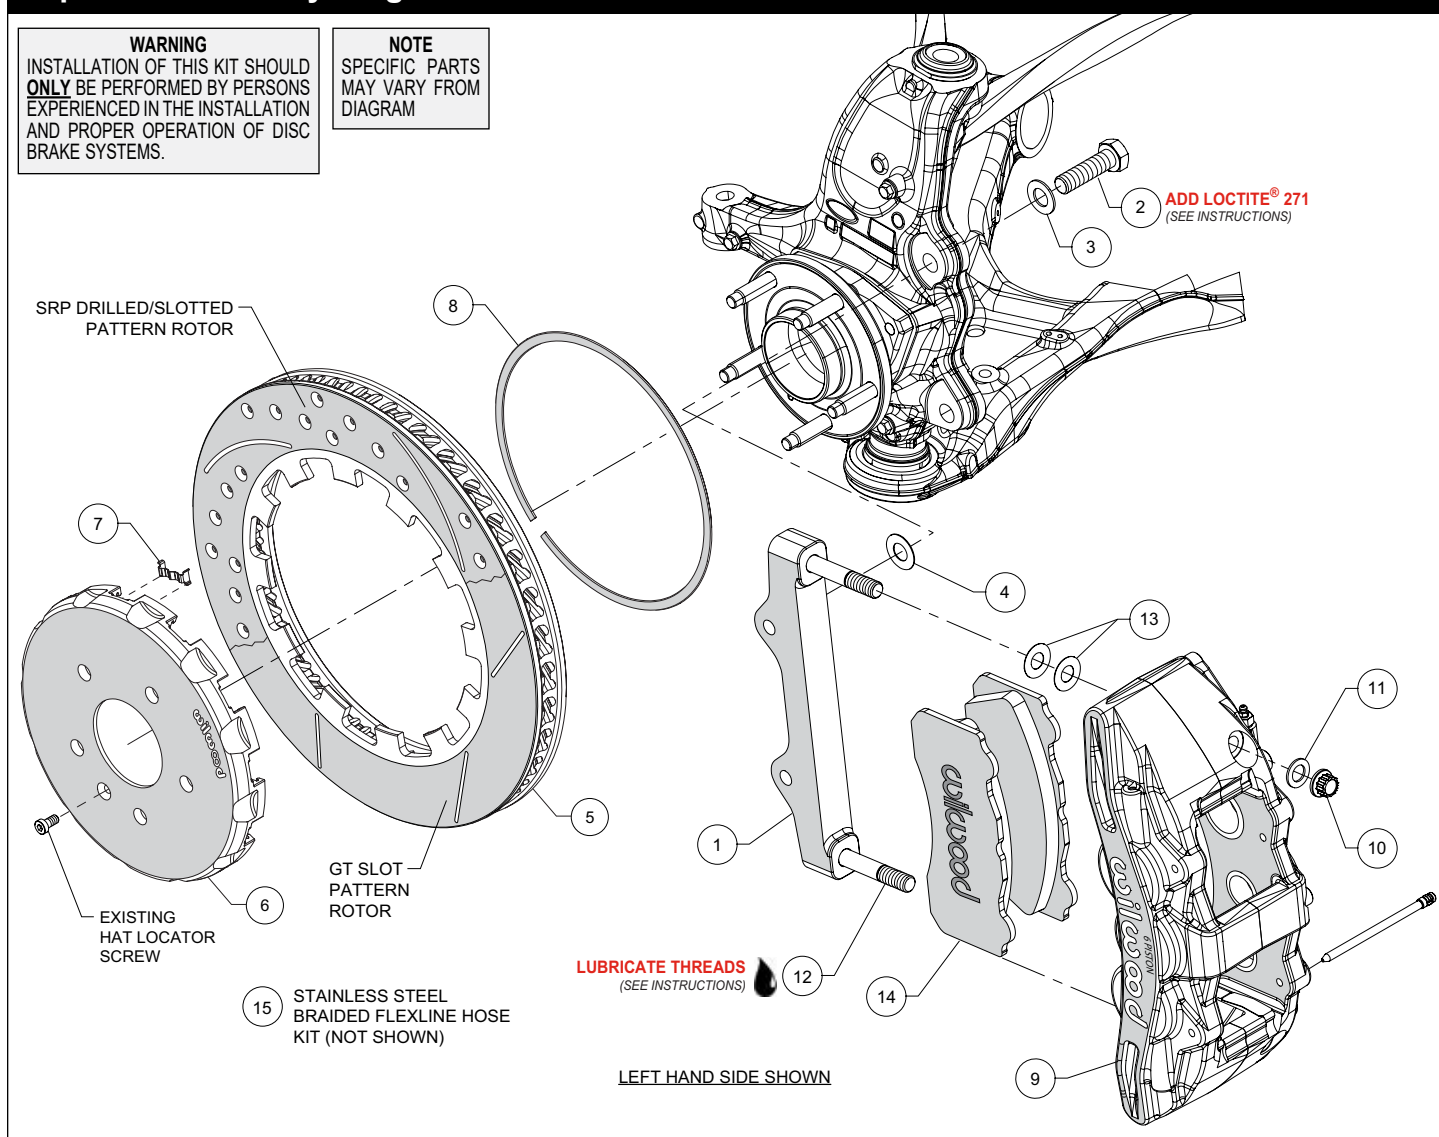

Figure 1. Typical Installation Configuration
NOTE: Numbers in parenthesis refer to the parts list and Figure 1 on the preceding pages.
- The caliper mount bracket (1) should initially be installed with clean, dry threads on the mounting bolts. Orient the bracket, as shown in Figure 1 and Photo 1, and install using bolts (2) and washers (3). Initially place one .029" thick shim (4) on each bolt
between the bracket and upright, Figure 1. Temporarily tighten the mounting bolts. **NOTE:** The bracket must fit squarely against the mount bosses on the upright. Inspect for interference from casting irregularities, machining ridges, burrs, etc. Later, after the caliper alignment has been checked, the mount bolts will be secured using red *Loctite*® 271.
- Insert the dynamic mount wear clips (7) into the slots in the hat (6), Photo 2. Orient the rotor (5) as shown in Figure 1 and Photo 3, with the flush side of mount lugs facing the hat. Secure the rotor to the hat using the snap ring (8) by simultaneously pushing down on the rotor and installing the ring into the groove in the hat, as shown in Photo 4. Carefully inspect snap ring to ensure complete engagement in the groove.
- Slide the hat/rotor assembly onto the axle hub, Photo 5. **NOTE:** The hat must fit flush against the axle hub flange or excessive rotor run out may result. Install the hat locator screw (OEM), as shown in Figure 1, to keep the hat/rotor assembly in place while continuing with the installation.
- NOTE:** This kit contains distinct right and left hand calipers that must be mounted in a specific direction, as described below. Lubricate the caliper mounting studs (12) with lightweight oil. Initially place two .015" thick shims (13) on each stud between the caliper and the bracket, as shown in Figure 1 and Photo 6. Mount the caliper (9) onto the bracket (1) using lock nuts (10) and washers (11), Figure 1. Temporarily tighten the lock nuts. Ensure that the caliper is mounted so the largest pistons are at the rotor exit end of the caliper, in relation to the forward direction of the rotor. View the rotor through the top opening of the caliper.
- Remove the two pad retaining pins from the caliper (9) by pushing out the pins from the tapered end using a blunt instrument. Insert the brake pads (14) into the caliper from the bottom, Figure 1 and Photo 8. With the friction material facing the rotor, secure the